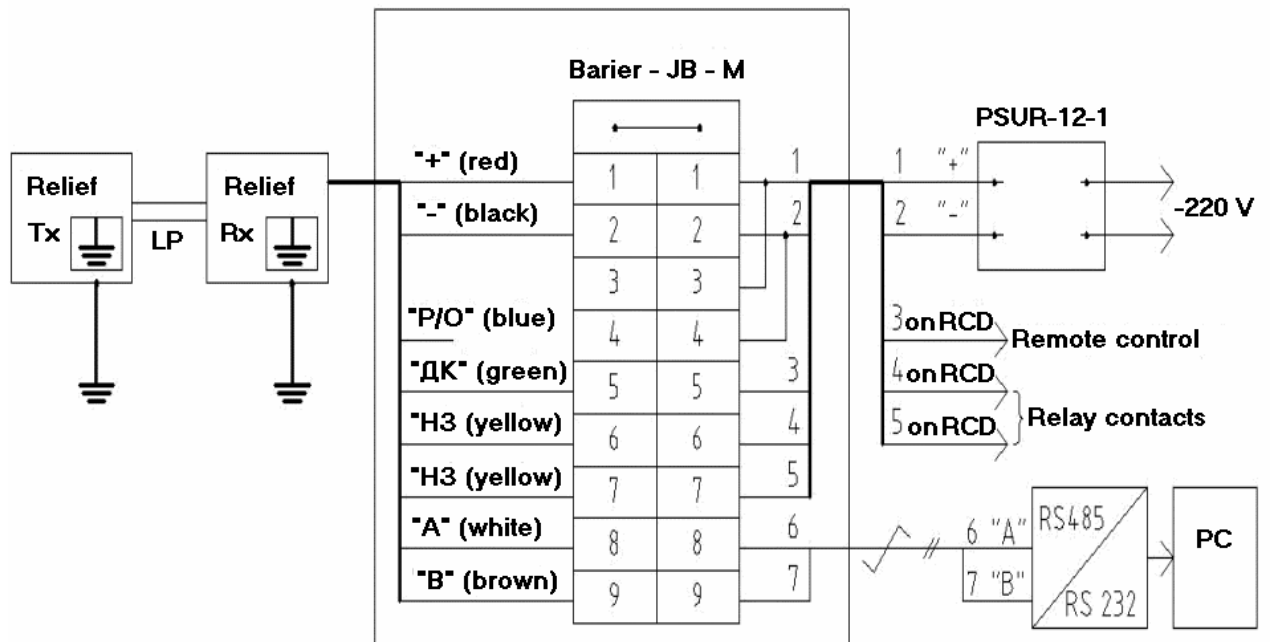

Fig.2.11. Connection of the Detector to the Junction Box of the manual adjustment of the Detector's sensitivity mode
2.7.4.1. To switch ON the manual adjustment of the Detector's sensitivity mode, switch ON the wire P/O of Rx output cable (see fig.2.11).